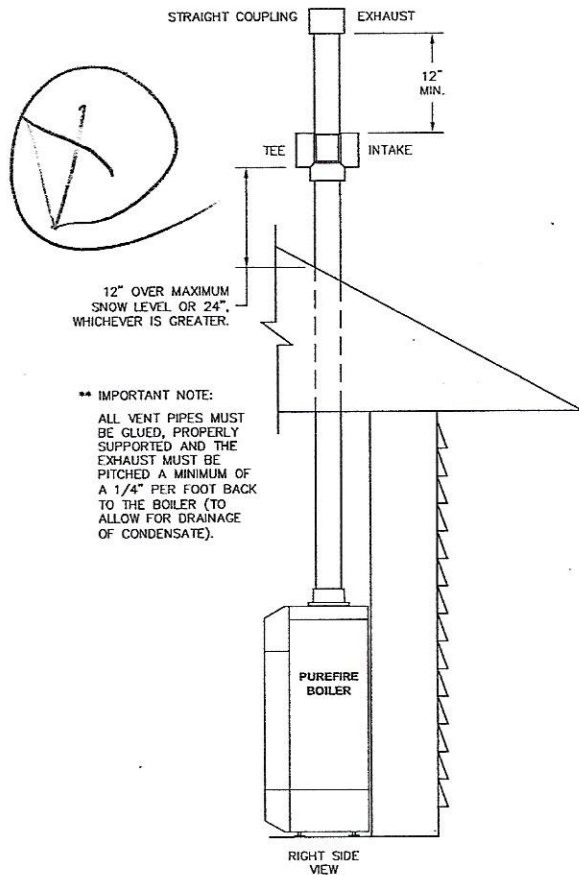

Figure 3.7: Standard Vertical Vent Installation
- Figure 3.7 shows the approved venting configuration for vertical venting using the standard fittings supplied.